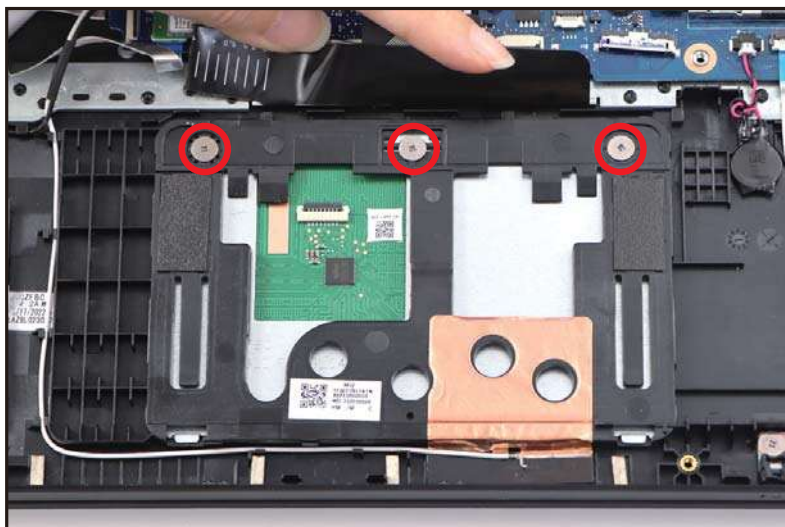

Figure 3-13. Touchpad Module Removal
4. Remove three (3) screws securing the touchpad module (Figure 3-13).